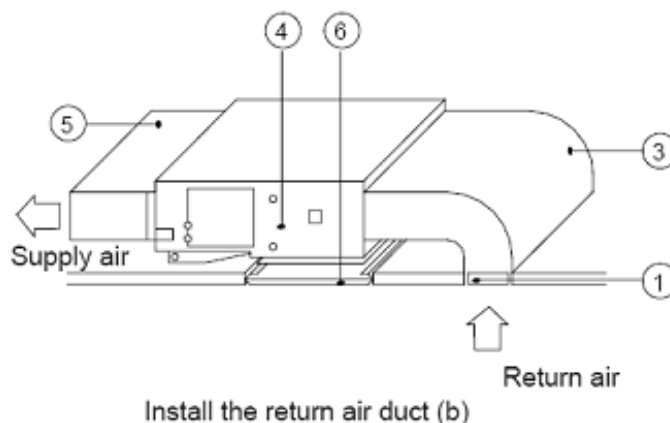

Figure 3-1-23
- (3) If the bottom return air is desired, just change the place of the rectangular flange and the return air cover plate.
- (4) Connect one end of the return air duct to the return air outlet of the unit by rivets and the other to the return air louver. For the sake of the convenience to freely adjust the height, a cutting of canvas duct will be helpful, which can be reinforced and folded by 8# iron wire
- (5) More noise is likely to be produced in the bottom return air mode than the backward return air mode, so it is suggested to install a silencer and a static pressure box to minimize the noise.
- (6) The installation method can be chosen with considering the conditions of the building and maintenance etc., as shown in Figure 3-1-23.